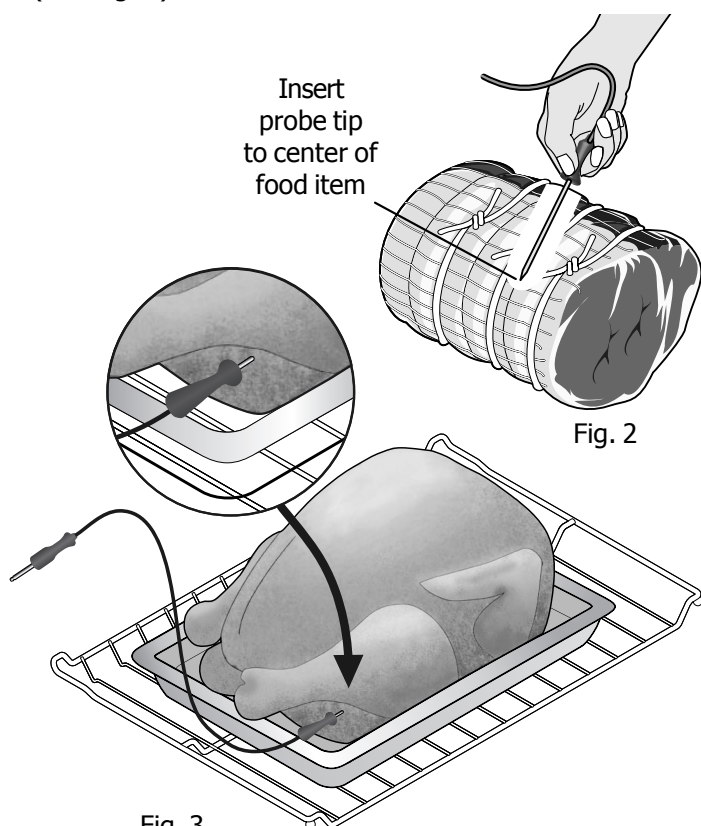

Fig. 3
- For whole poultry or turkey, insert the probe temperature sensor into the thickest part of inner thigh, below the leg (See Fig. 3).